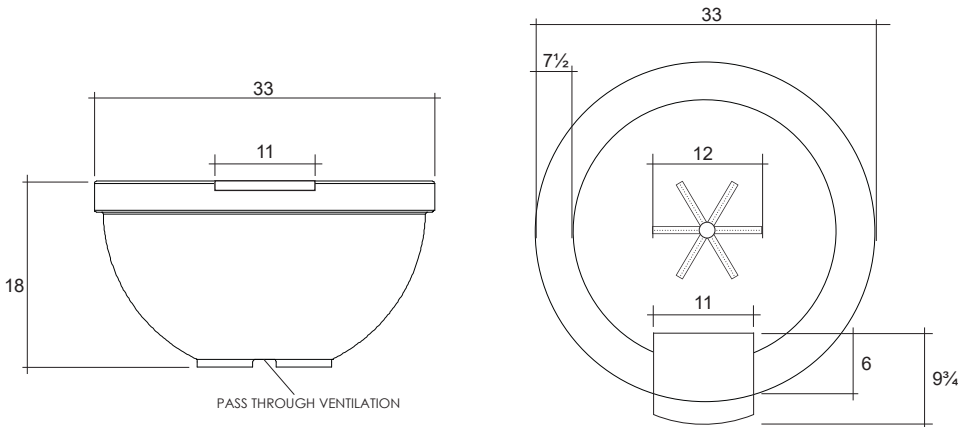

**FIGURE 3: PIPING SETUP FOR BOWL**
2. Piping must be reduced to ½ NPT or larger at each bowl, as shown in Figures 3 & 4.
3. At each fire/water bowl, install a 90° gas pipe elbow on the gas line for proper installation of a gas hose. Do not kink or make a tight radius bend on the gas hose. Note: The gas, electrical, and water connection at each bowl must be located at the center of each bowl. The connections must be installed as shown in Figures 3 & 4.